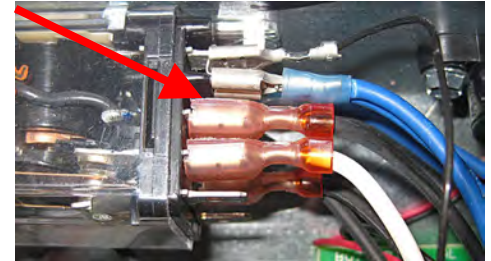

Figure 8
17. Attach a butterfly connector and reattach the wire removed in step 15 and one of the wires from the new harness in step 14 (see Figure 8).